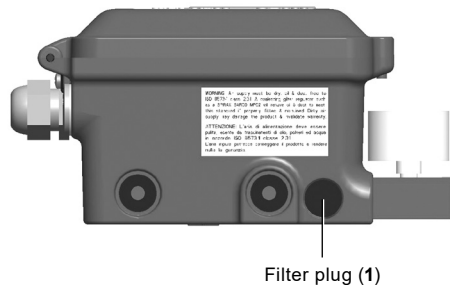

Fig. 44
- Unscrew the filter plug (1) from the SP400 housing using a 5 mm hex. head socket key (refer to Figure 44).